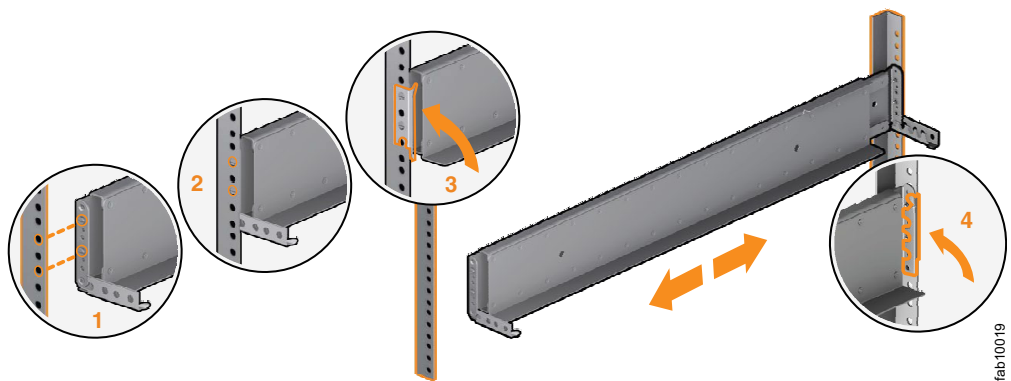

Figure 12. Closing the hinge brackets
8. Close the rear hinge bracket to secure the rail to the rack cabinet flange. (See Figure 12.)
10. Close the front hinge bracket to secure the rail to the rack cabinet flange. (See Figure 12.)